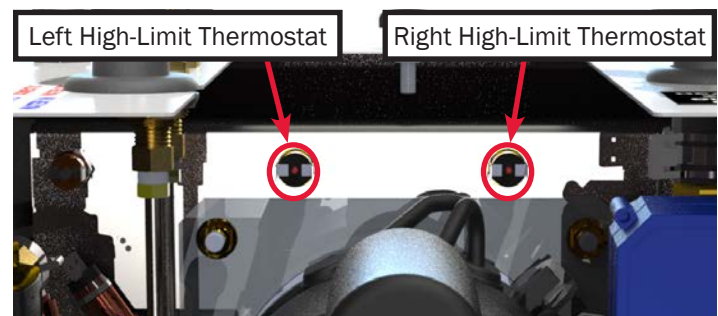

Figure 41
1. Locate the high-limit thermostats (see Figure 41).